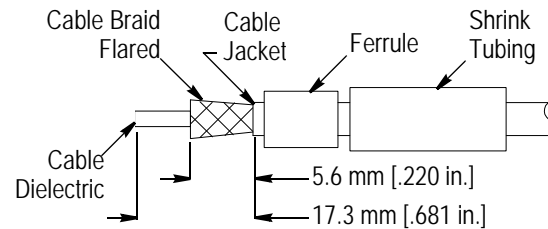

Figure 2
3.1. Prepare Cable (Figure 2)
2. Strip the cable jacket to the dimension given in Figure 2.
3. Trim the cable braid to the length given in Figure 2. Flare the cable braid.